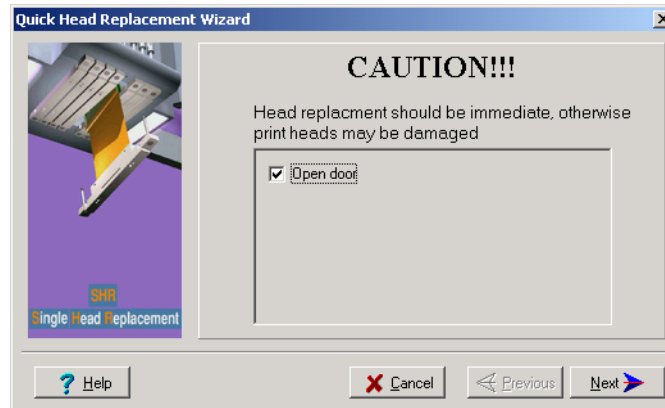

Figure 7-37:Head Replacement warning screen
7. Take note of the warning screen that appears (see figure 7-37). To prevent damage to the print block, you must install the new head immediately after removing the defective one. Next if you are ready to continue.